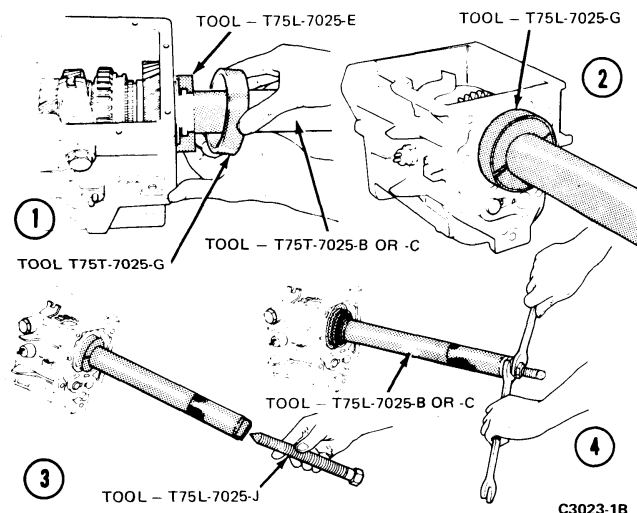

FIG. 15 Removing Output Shaft Bearing
9. Remove the snap ring that retains the output shaft bearing on the shaft. Remove the bearing from the case and shaft as shown in Fig. 15.